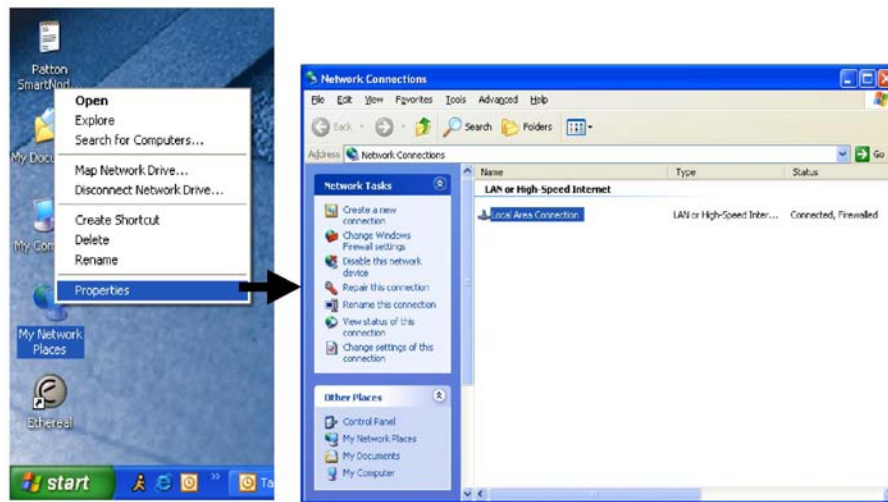

Figure 8. Displaying the Network Connections window
1. Right-click on *My Network Places* and select *Properties* in the context menu (see figure 8).